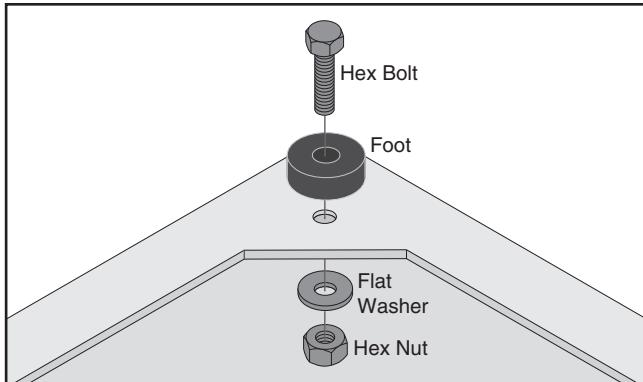

Figure 5. Rubber foot order of installation.
1. Install the rubber feet into the bottom of the cabinet stand, as shown in **Figure 5**, with the four $\frac{5}{16}$ "-18 x 1" hex bolts, four $\frac{5}{16}$ " flat washers, and four $\frac{5}{16}$ "-18 hex nuts.